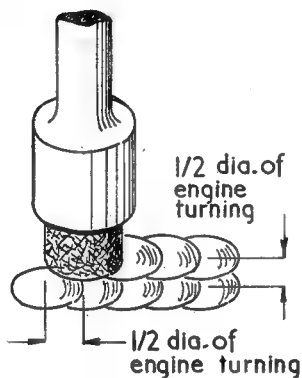

Fig. 8
- (2) Coat the work with abrasive and place the work on drilling machine table.
- (3) Start the machine and press the felt pad against the work.
- (4) Raise the pad, move the work for a distance equal to half the diameter of the engine turning, again press the pad against the work (see Fig. 8).
- (5) Repeat the procedure until a complete line of engine turning is produced.
- (6) Commence the operation again moving the work sideways for a distance equal to half the diameter of the engine turning.